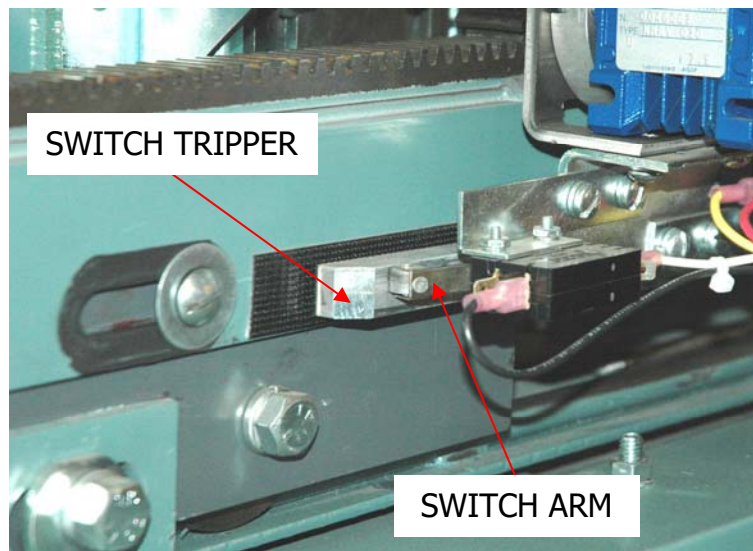

FIGURE 2
7. Repeat the operation to the closed position, check the close limit switch and switch tripper. Adjust if necessary (Figure 2).